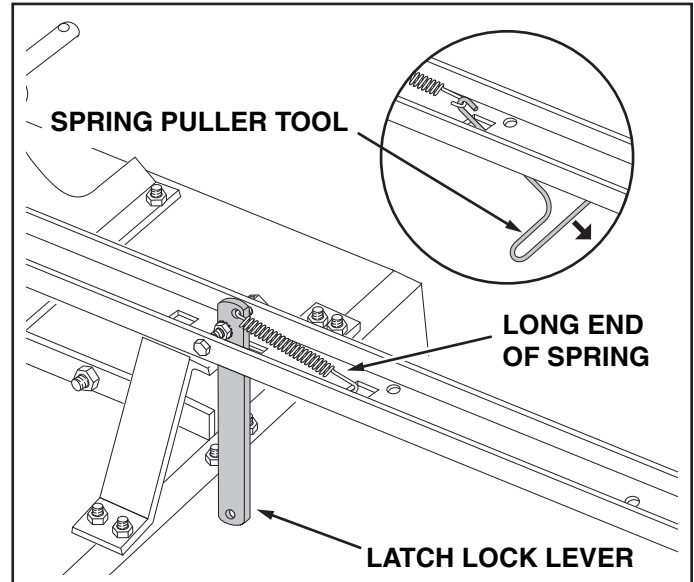

FIGURE 11
16. Hook the **short** end of the spring into the hole in the latch lock lever. Use the spring puller tool to hook the **long** end of the spring into the square hole in the tongue. The spring puller tool can be stored when finished. See figure 11.